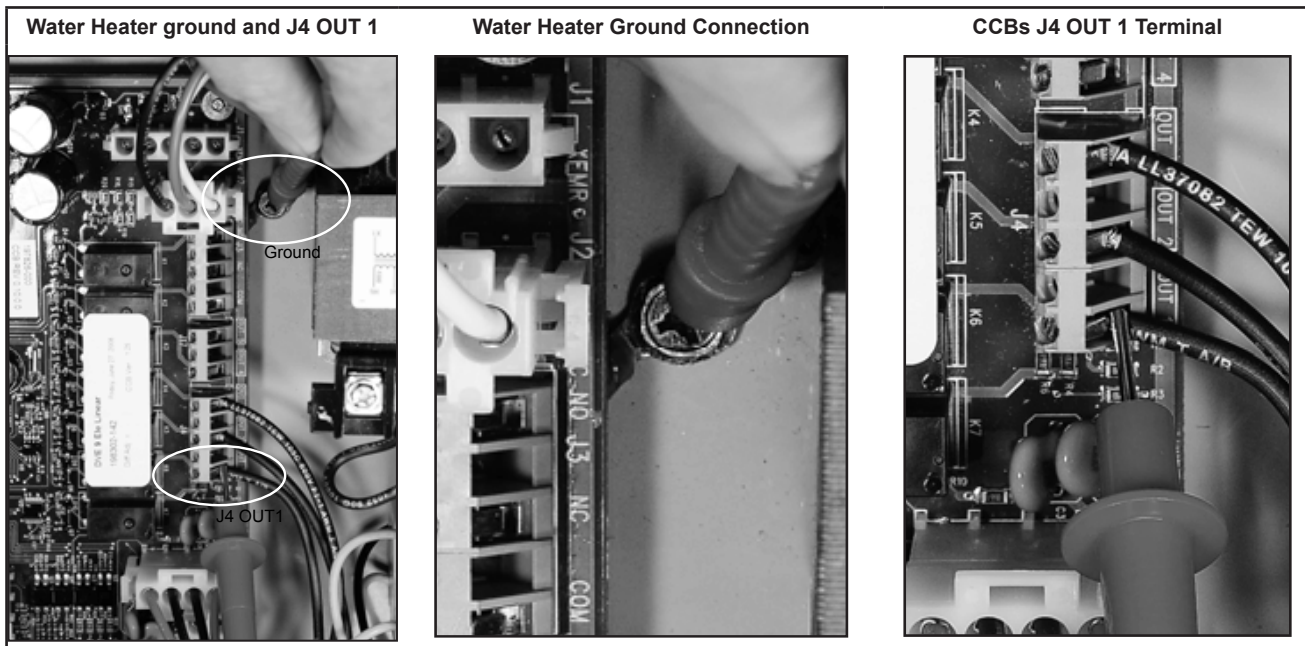

Figure 31. Checking Contactor Coil Voltage at the CCB's J4 Wiring Terminals
4. Touch one of the two volt meter probes to the ground wire connection on the water heater. Touch the other volt meter probe to the CCB's J4 OUT 1 wiring terminal. See the images in **Figure 31**. On water heaters equipped with more heating elements, also check between the ground connection and the CCB: J4 OUT 2 wiring terminals and on water heaters equipped with 9 elements also check between ground and the CCB's J4 OUT 3 wiring terminal. Measure and record voltage readings taken in this step.